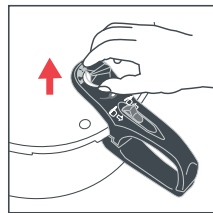

Fig.15
- 2. Carefully pull the valve upwards** (Fig. 15).